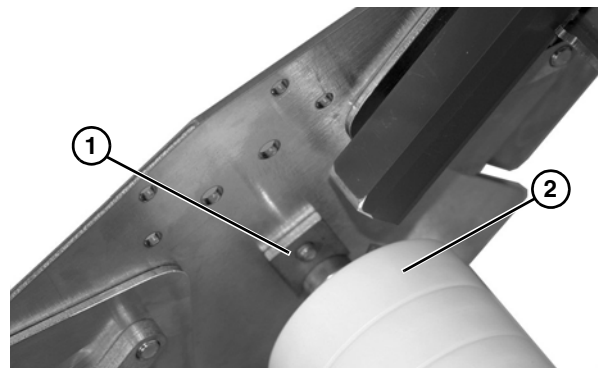

Figure 56
5. Remove lower knuckle shaft assembly retainer (Figure 56, item 1).
6. Remove shaft and roller assembly (Figure 56, item 2).